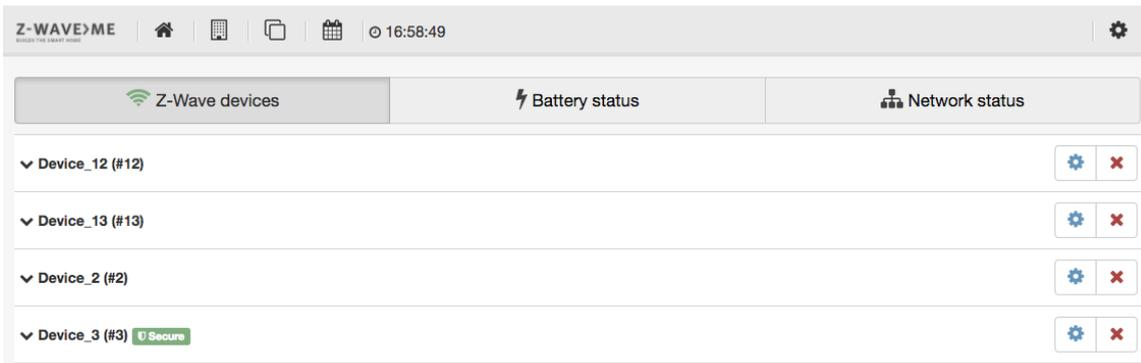
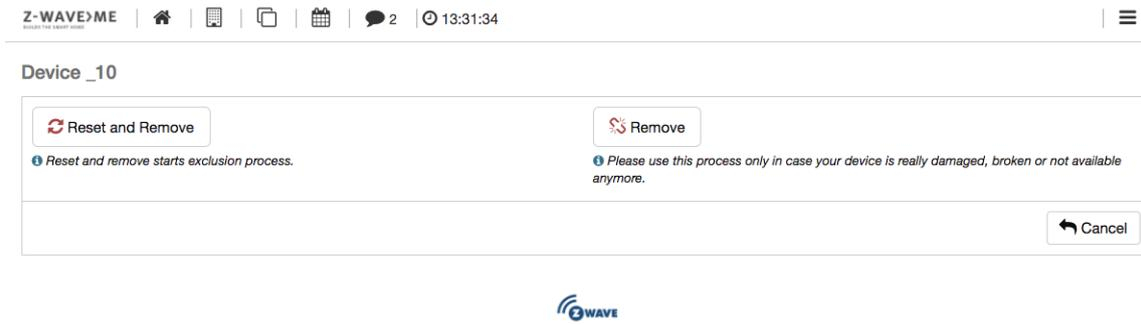

Figure 4.25: Z-Wave device overview
Figure 4.28: Z-Wave Device Reset /Exclusion
- Figure 4.25 shows a list of the physical **Z-Wave** devices. The ⓘ button will open the very same device management dialog as described during manual post-inclusion configuration in Section 4.2.2. The ✕ button opens a dialog to remove the device. As shown in Figure 4.28 there are two options: